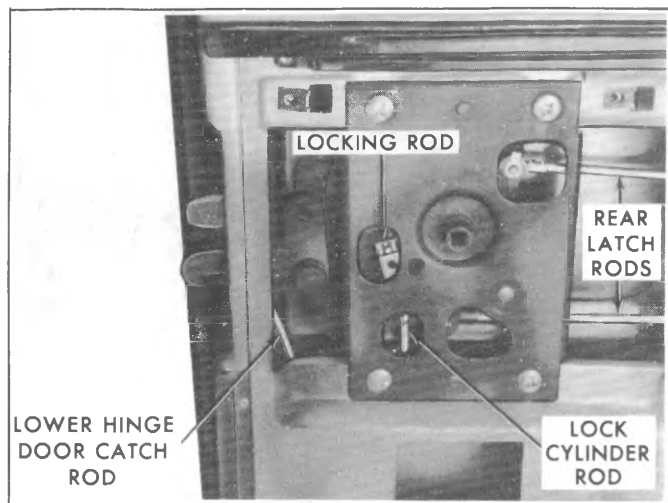

Fig. 2D-118--Adjusting the Rear Wedge Assembly
7. Slide latch rearward and lift front of latch. Disconnect rod leading to lower hinge door catch by pushing rod out of hole and rotating rod clear of latch. See figure 2D-119.